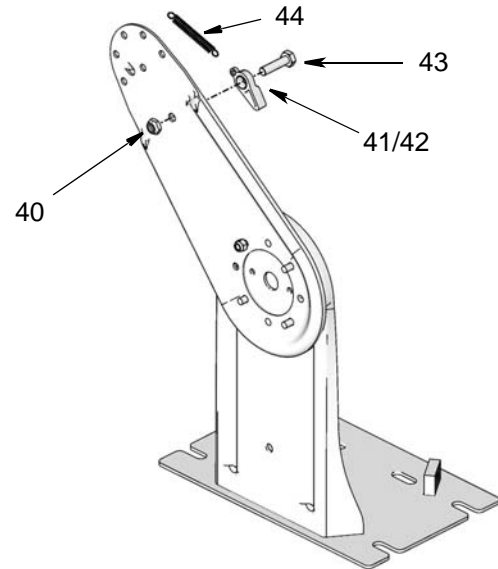

FIG. 10
- Install new pawl (42), bushing (41), spring (44), nut(40) and bolt (43) to guide arm (30). Tighten bolt securely (FIG. 10).